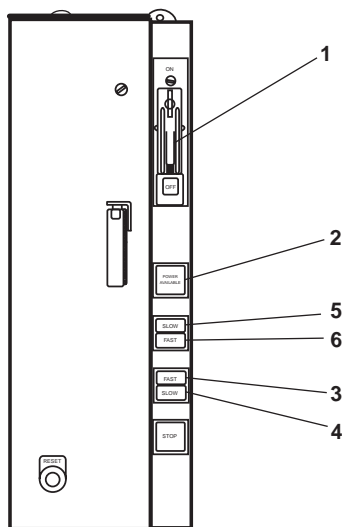

Figure 15. Dual Speed Fan Motor Controller
- a. Set the ON-OFF switch (figure 15, item 1) to ON.
- b. Verify that the POWER AVAILABLE indicator (figure 15, item 2) illuminates.
- c. Select a fan speed by pressing and releasing either the FAST or SLOW pushbutton (figure 15, item 3 or 4).
- d. Verify that the fan speed selected is displayed on the appropriate indicator (figure 15, item 5 or 6).